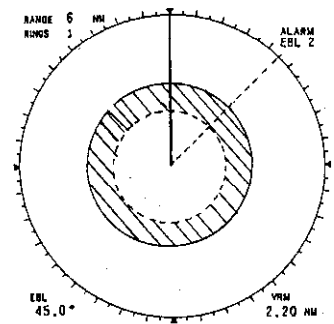
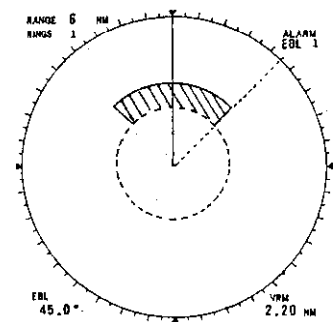

Fig.1-17
Fig.1-18
9. Then, press  /  to position the EBL at 45°, and hit the SET/RESET touchpad. The setting of the guard zone is now completed. To change the bearing sector, repeat steps 7 and 8. See Fig.1-17 and Fig.1-18.